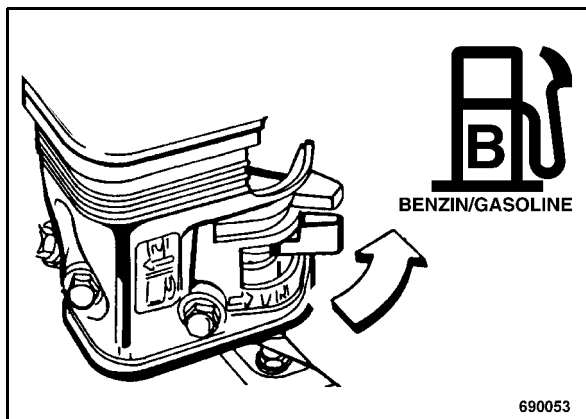

Fig. 51
- Open the fuel tap (Fig. 51) by turning in direction of arrow.